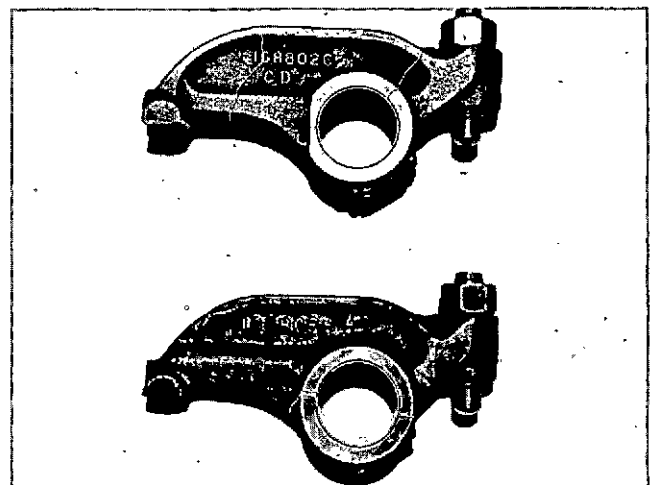

Fig. 3-1-2, V40305. Magnetic inspection crack indication
3. Check for surface imperfections by magnetic inspection. Apply coil magnetization, amperage at 300 to 500 with residual Magnaglo. See Fig. 3-1-2 for most likely areas.